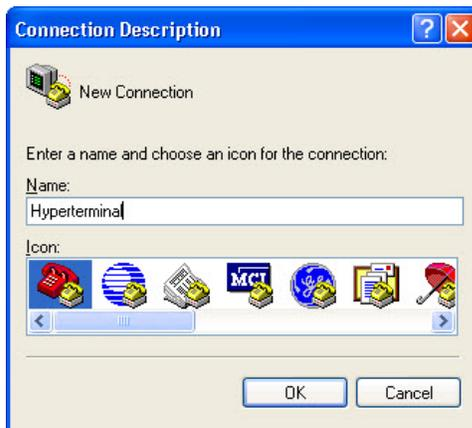

Figure 6-5 • New Connection
4. Enter **Hyperterminal** in the **Name** field in the Connection Description dialog box and click **OK** (Figure 6-5).